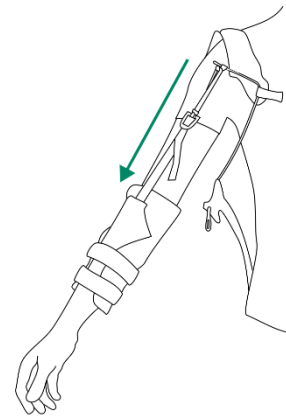

Figure 7
4. Take off the Mbrace (Fig. 7).